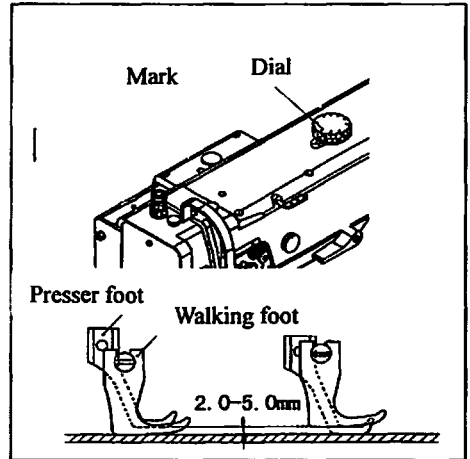

Fig.10
1) Adjustment of alternating movement (Fig.10):